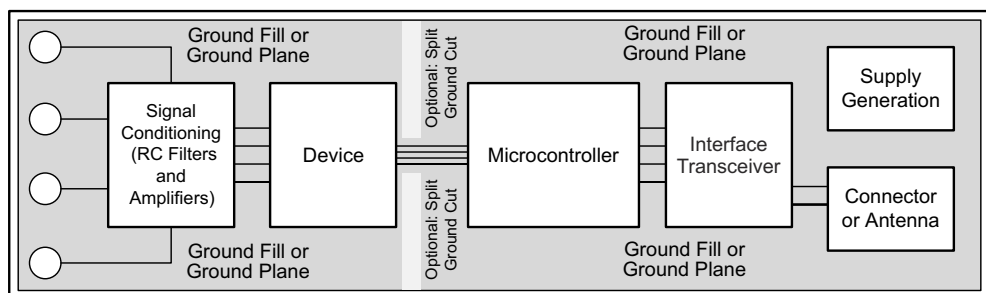

Figure 9-10. System Component Placement
Employ best design practices when laying out a printed-circuit board (PCB) for both analog and digital components. For optimal performance, separate the analog components [such as ADCs, amplifiers, references, digital-to-analog converters (DACs), and analog MUXs] from digital components [such as microcontrollers, complex programmable logic devices (CPLDs), field-programmable gate arrays (FPGAs), radio frequency (RF) transceivers, universal serial bus (USB) transceivers, and switching regulators]. An example of good component placement is shown in Figure 9-10. Although Figure 9-10 provides a good example of component placement, the best placement for each application is unique to the geometries, components, and PCB fabrication capabilities employed. That is, there is no single layout that is perfect for every design and careful consideration must always be used when designing with any analog component.